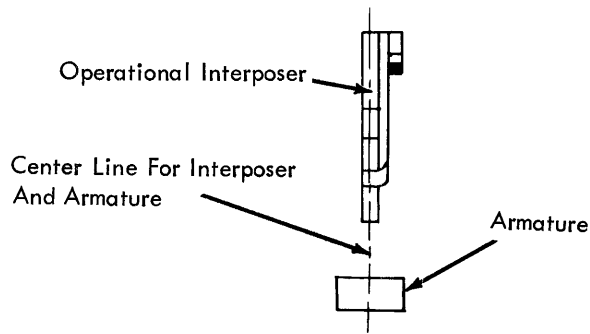

FIGURE 170. Left To Right
- Left to Right - so that the armatures are directly beneath their corresponding interposers (Fig. 170).